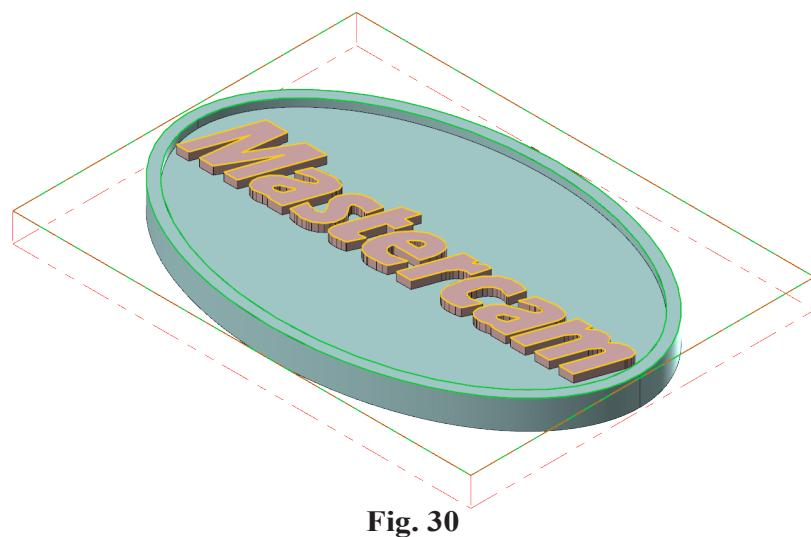

Fig. 30
Step 8. Click OK  in Machine Group Properties, **Fig. 30**.